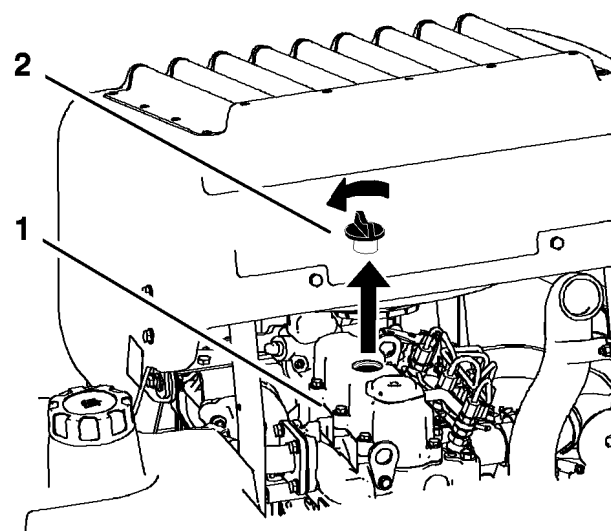

Figure 38
6. Remove the oil filler cap from the top of the engine (Figure 38). This will help the oil to drain.
2. Remove the oil filler cap and the dipstick (Figure 38).